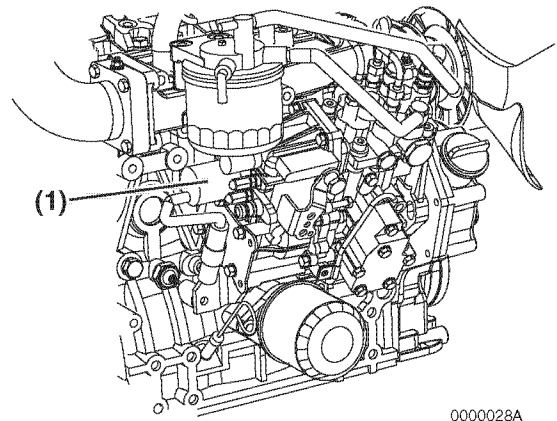

Figure 13
When the key is turned to the ON position, the engine stop solenoid (**Figure 13, (1)**) is energized and allows the fuel injection pump to deliver fuel to the engine, allowing the engine to be started. When the key is turned to the OFF position, the engine stop solenoid is de-energized and shuts off the fuel supply from the fuel injection pump to the engine, causing the engine to stop.